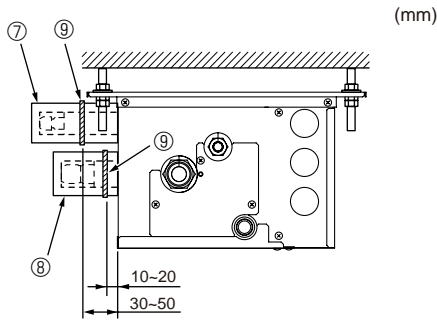

Fig. 7-5
- ⓖ Pipe covers ⓐ ④ ⑤ ⑥
► Use the following procedures for indoor connection part which indoor unit is not connected. (Fig. 7-5)
- (1) In order to prevent refrigerant leaks, make sure that the flare nuts are tightened according to the specified torques\* in Table 3.